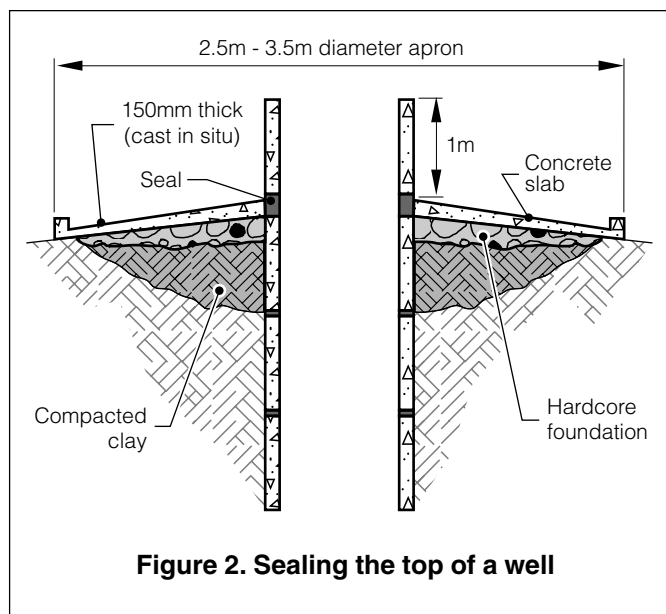

Figure 2. Sealing the top of a well
3. Sealing the top of the well using a clay sanitary seal built around top of well (Figure 2).